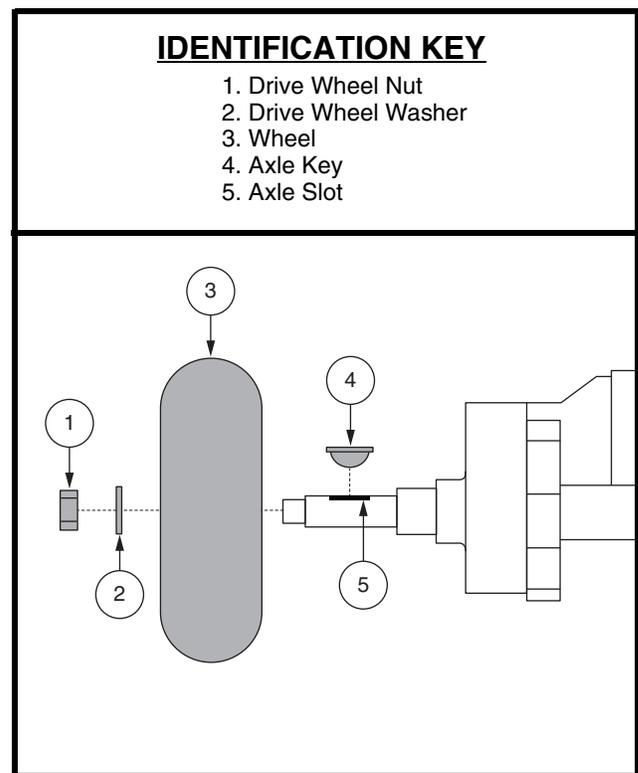

Figure 18. Wheel Replacement
3. Remove the drive wheel nut and washer from the axle. See figure 18.